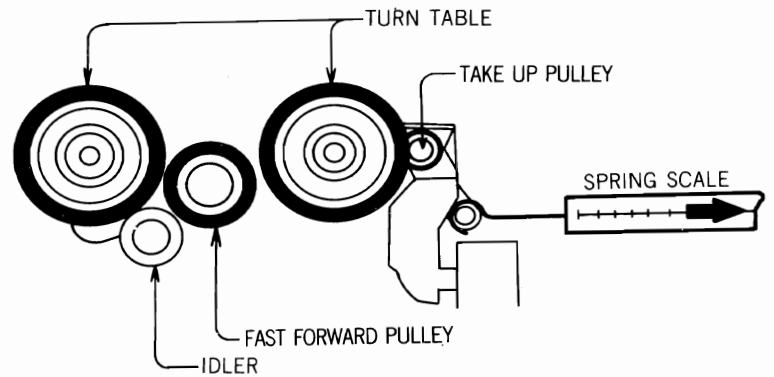

Fig. 7
- ① In PLAY mode, hook a spring scale to the take-up pulley as shown in Fig. 7.
- ② Stop the rotating of motor and take a reading only when the take-up pulley is pulled backward by the spring scale.
- ③ The reading should be 50 to 120g.